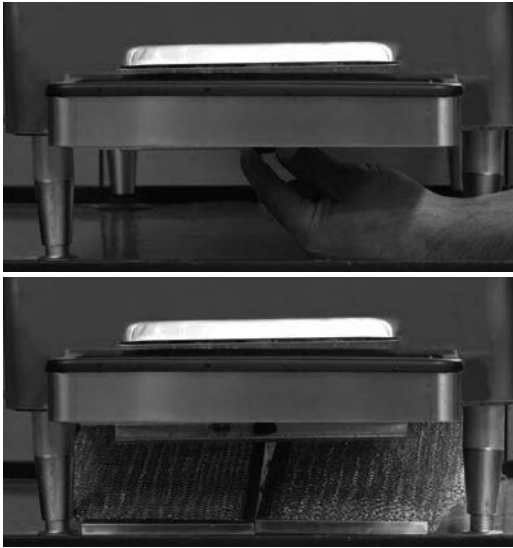

Figure 3-10 E112 Condenser Filter Removal
- A. Unscrew the knob located on the underside of the machine towards the front (Fig. 3-10).